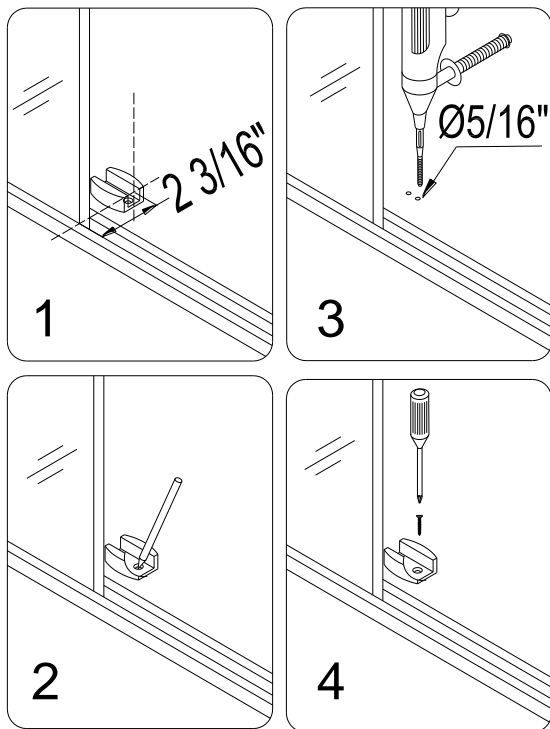

Fig. 15
6. Place the **Guide block (12)** on the floor and parallel it to **Stationary glass panel** with its edge flush with the glass vertical edge. Take a measurement to ensure the distance from the outer surface of the glass to the center line of the guide block is **2 3 /16"**, hold it firmly and mark hole positions on the floor. Remove the block, drill the holes in the floor, insert **Small anchors** and then secure it onto the floor with **Countersunk screw ST4.2x30 (16)**. See fig. 15 for details.